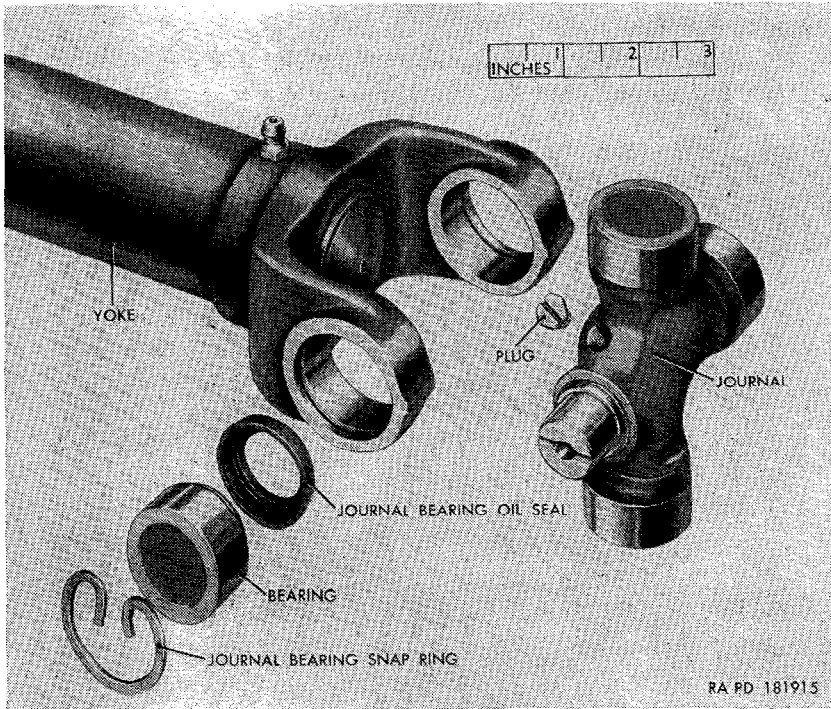

Figure 131. Front propeller shaft universal joint and yoke—partially exploded view.
a. *Front Propeller Shaft Universal Joints Disassembly* (fig. 131). Procedures for disassembly of both universal joints of the front propeller shaft with universal joints are the same.
- (1) Remove front propeller shaft with universal joints (par. 202a).
- (2) Remove the two loose journal bearings and oil seals from journal, being careful not to lose the rollers. Do not remove the plug.
- (3) Remove the two journal bearing snap rings from the yoke by squeezing the open ends of the ring together with pliers. Place a brass drift against the end of one of the bearings and drive the bearing into the yoke until the bearing on the opposite end of the journal is driven out of the yoke. Pull the protruding bearing and journal bearing oil seal from the
b. *Front Propeller Shaft Universal Joints Assembly* (fig. 131). Procedures for assembly of both universal joints of the front propeller shaft with universal joints are the same.
- (1) Push a journal bearing oil seal onto each of the two journal ends, convex side first. Insert the journal into the yoke holes.
- (2) Carefully start the two bearings onto the journal ends and into the yoke holes. Using a brass drift, carefully tap the bearings in until their outer ends are just inside the snap ring grooves in the holes. Install the two journal bearing snap rings by squeezing the ends together with pliers.
- (3) Push a journal bearing oil seal onto each of two journal ends, convex side first. Push a bearing onto each journal end.
- (4) Install the front propeller shaft with universal joints (par. 202*b*).